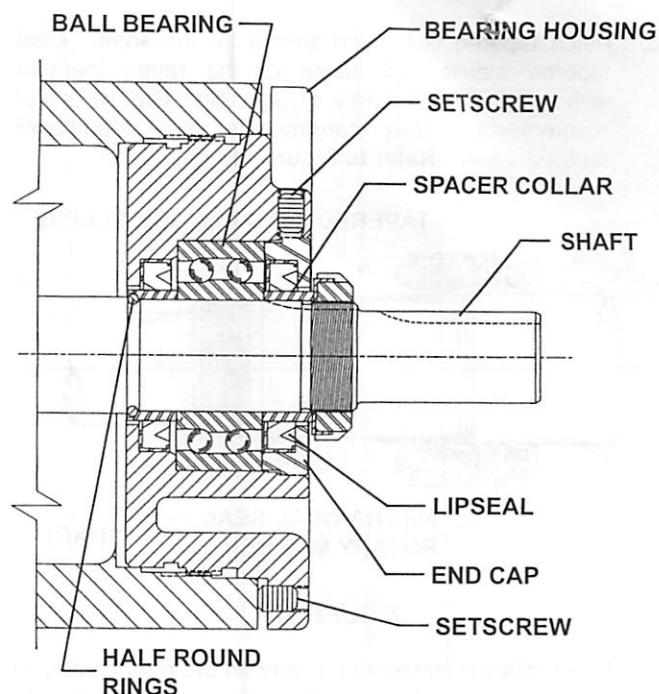

FIGURE 10
4. Loosen two setscrews in the face of the bearing housing and remove the bearing housing assembly from the bracket. **Refer to Figure 10.**